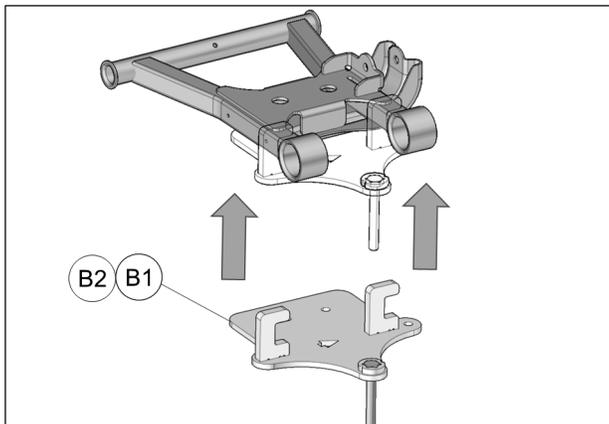

Fig. 6
- Install anchor bracket (**B1-B2**) under lower suspension arm; C-shaped openings on bracket must be located over suspension arm tubes. See Fig. 6